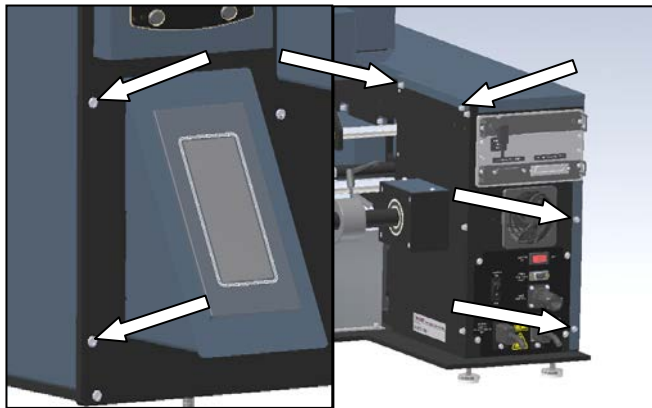

Figure 3-14. Frame Cover Screws
1. Remove Frame Cover Screws. There are six screws to remove (Figure 3-14).